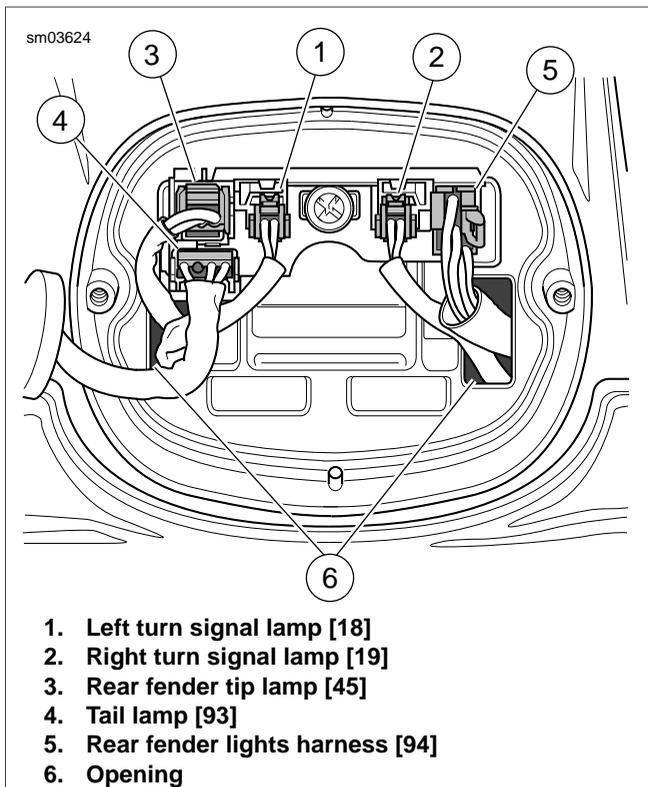
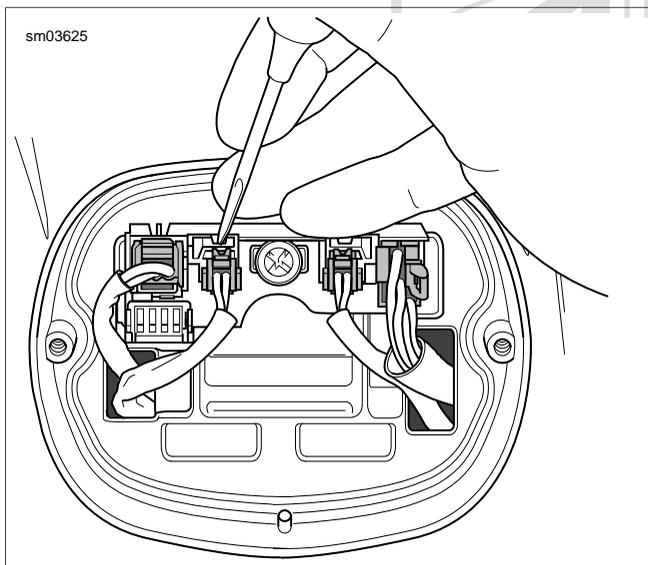

Figure 8-32. Rear Fender Lights Assembly
Figure 8-33. Use Pick Tool to Release Left Turn Signal Lamp Socket
3. Disconnect remaining connectors. See Figure 8-32. To release socket housings of left and right turn signal lamps, use a pick or small screwdriver to depress button as shown in Figure 8-33.
5. Feed socket housings through openings to inboard side of chrome base. See Figure 8-32. For best results, free the smaller socket housings first.
1. Feed socket housings through openings to outboard side of chrome base. See Figure 8-32. For best results, feed the larger socket housings first.
4. See Figure 8-32. Disconnect rear fender lights connector [94], 6-place Multilock. Feed socket housing through opening to inboard side of fender.
4. See Figure 8-32. Feed socket housing of rear fender lights connector [94] through opening to outboard side of fender. Connect socket housing to pin housing/circuit board.